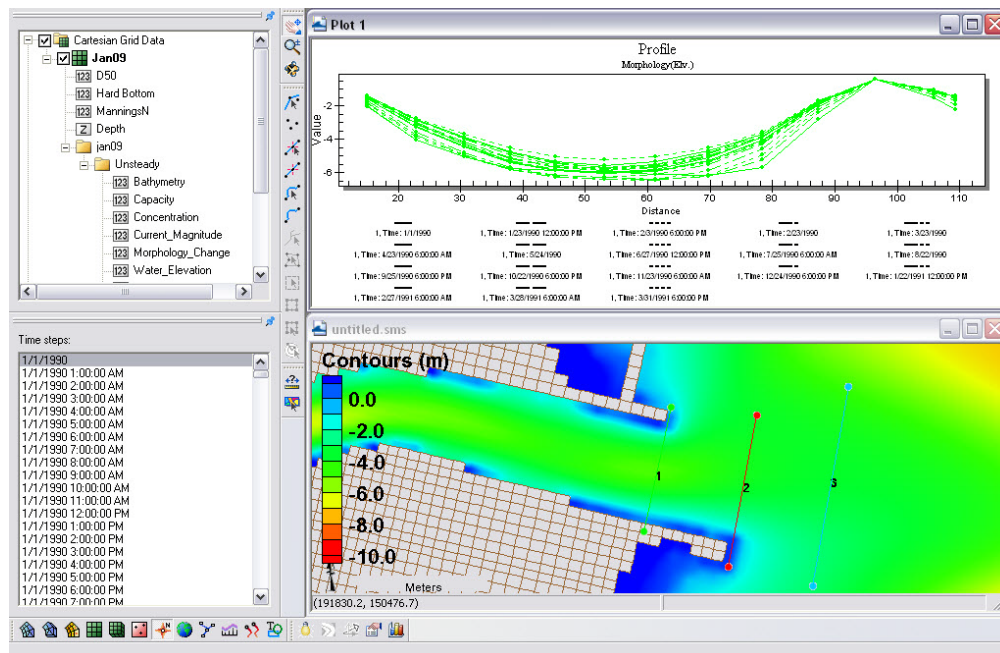

Figure 8.4.5. Plotted cross-section.
13. Rt-click on the plot (Figure 8.4.5) and select *view values..*, and a table will appear with all the plotted distance and elevations given in the graph, (Note this ascii table can be copied and pasted into excel)